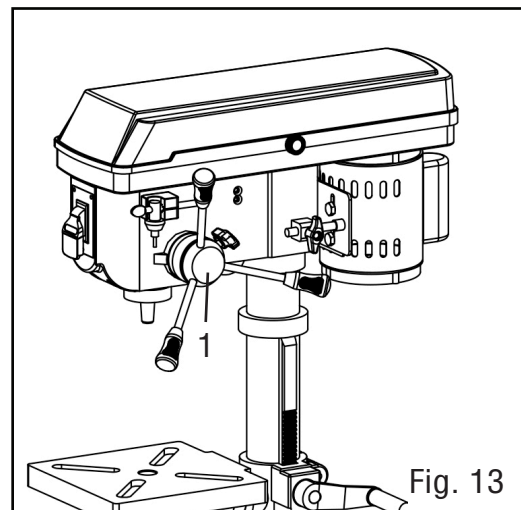

Fig. 13
See Fig. 13
1. Insert the three feed handles into the threaded openings on the feed hub (Fig. 13 - 1).